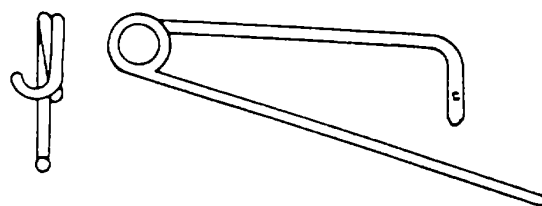

Figure 2-49. Safety Retaining Pins
c. Safety Retaining Pins. Use safety retaining pins, AN416, as shown in figure 2-49, to secure items such as clevis pins, MS20392, small chains, checklists, and other similar items.